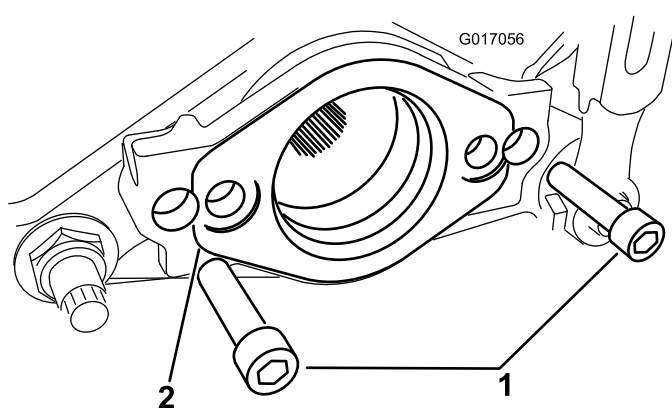

Figure 3
7. Remove the 2 Allen head screws securing the motor mount to the right end of the cutting unit. Remove the motor mount (Figure 3).